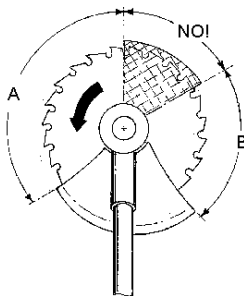

Fig.22
**When using the machine to cut bushes or pruning** mount the CE-standard disk saw together with the appropriate safety guard. You will reach the maximum cutting capacity when the acceleration of the machine is at its peak rpm and consequently the saw will have a lower probability of jamming or stopping under these operating conditions. In order to use this type of cutting tool correctly, the blade must not be used in its critical sector (Fig. 22), given the risk of the blade's rebounding (known kick-back). This effect is sometimes strong enough to make you lose control of both the machine and your balance, with the consequent risk of injury. We recommend cutting with side A of the disk saw for ideal cutting control. Side B can also be used for cutting, but there is less control because of the disk counter-clock-wise rotation.